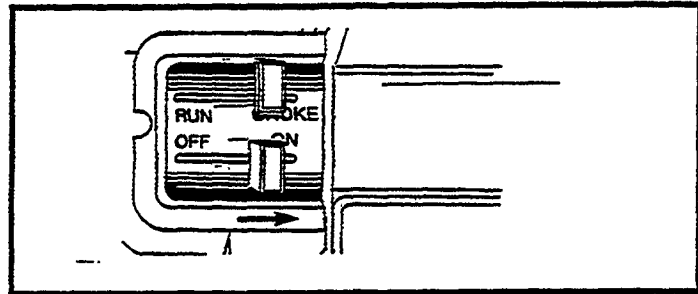

FIGURE 7
2. Move **STOP LEVER** to **ON** position (See Figure 7).